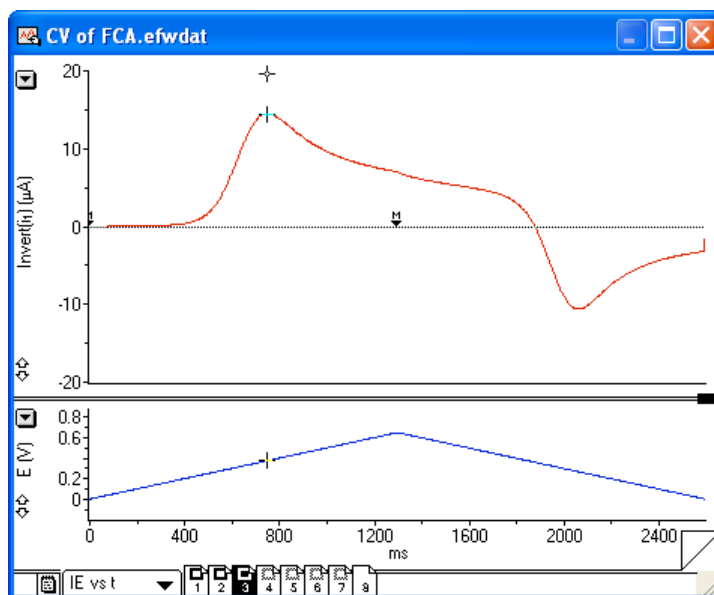

Figure 6.1 Setting the baseline for i_p^{Ox} in IE v t view
The CVs should now look similar to **Figure 6.1**.
- 6.3.1** To measure the peak oxidation current (i_p^{Ox}), drag the marker onto current (I) channel to $t=0$. Press Control-Alt (Command-Option for Macintosh) and drag a second marker onto the CV that is independent of the waveform. Adjust the second marker so the tie line forms a tangent with the initial current slope during the oxidising sweep. See **Figure 6.1** for an example. Use the cursor to measure the peak current relative to the baseline and tabulate in **Table 7.1**. Repeat for each CV.